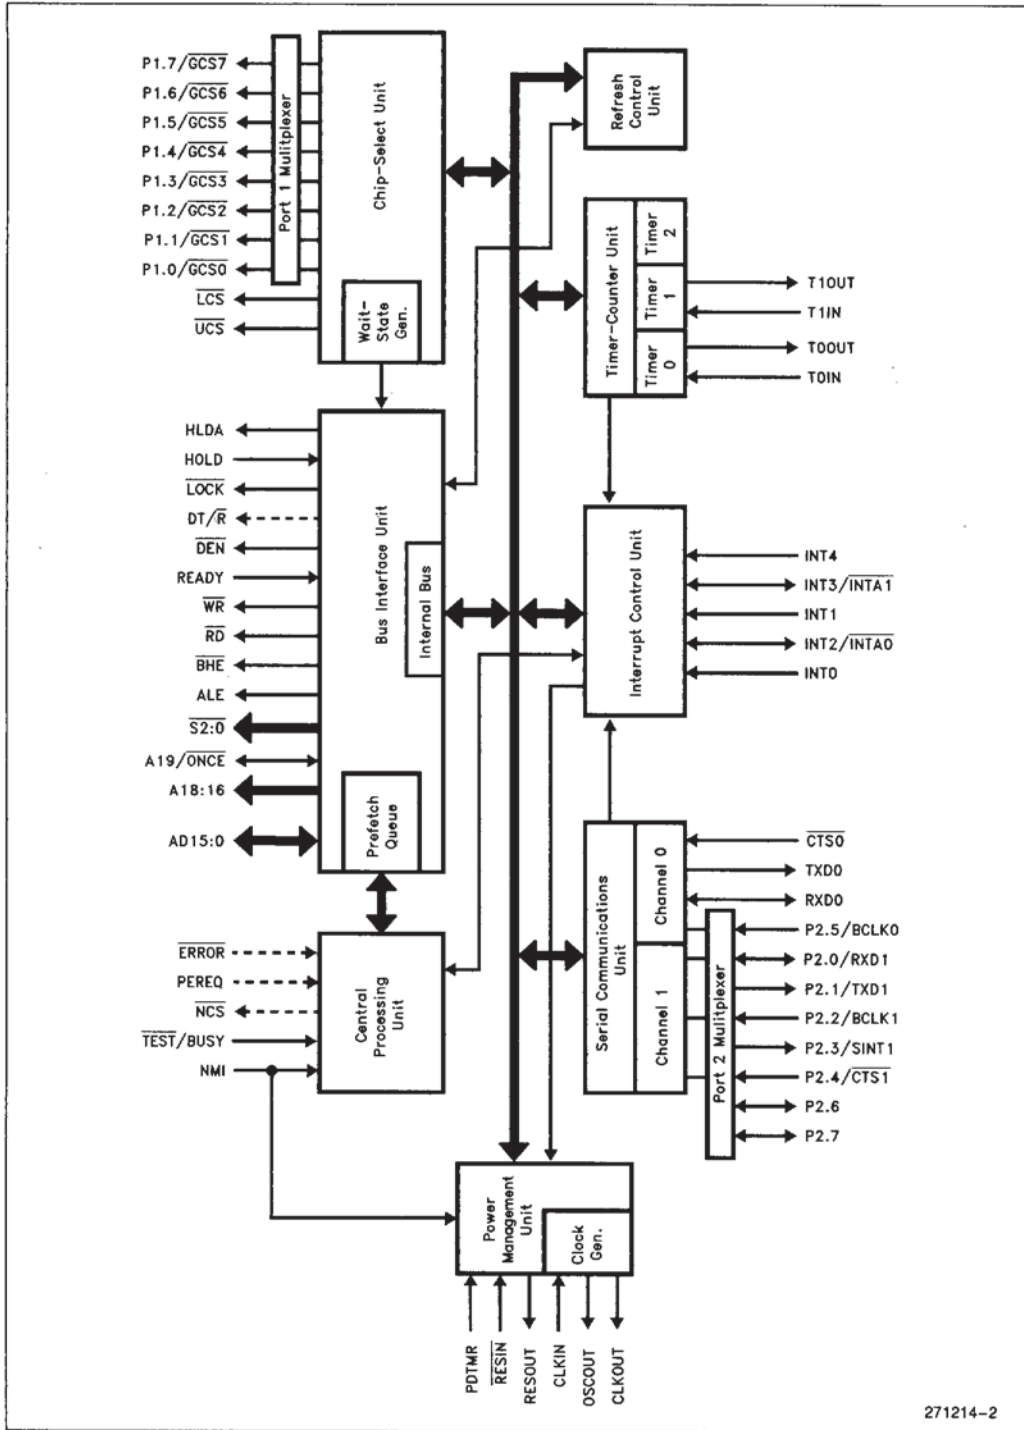

Figure 1. M80C186EB Block Diagram
Figure 1 shows a block diagram of the M80C186EB. The Execution Unit (EU) is an enhanced M8086 CPU core that includes: dedicated hardware to speed up effective address calculations, enhance execution speed for multiple-bit shift and rotate instructions and for multiply and divide instructions, string move instructions that operate at full bus bandwidth, ten new instruction, and full static operation. The Bus Interface Unit (BIU) is the same as that found on the original 186 family products, except the queue-status mode has been deleted and buffer interface control has been changed to ease system design timings. An independent internal bus is used to allow communication between the BIU and internal peripherals.